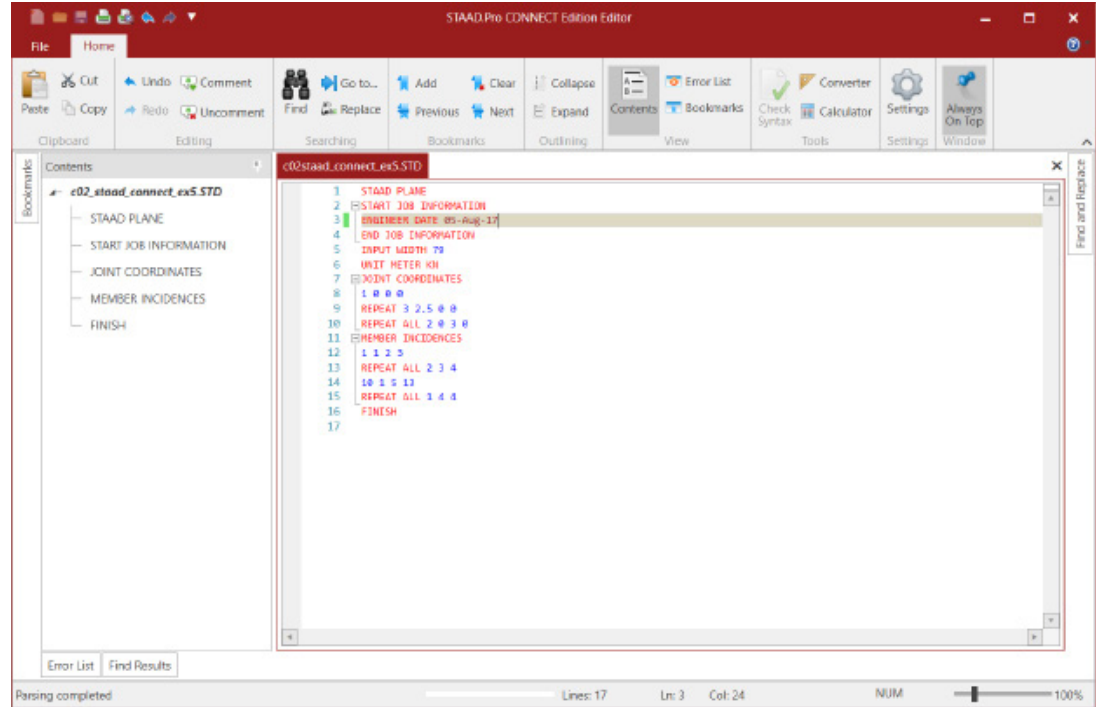

Figure 2-16 Commands for creating nodes and members
Step 1: Create a new file in **STAAD.Pro** with the name *c02_staad_connect_ex5* and then invoke the **STAAD Editor** window, as discussed earlier. Specify the commands to create nodes and members, as shown in Figure 2-16.